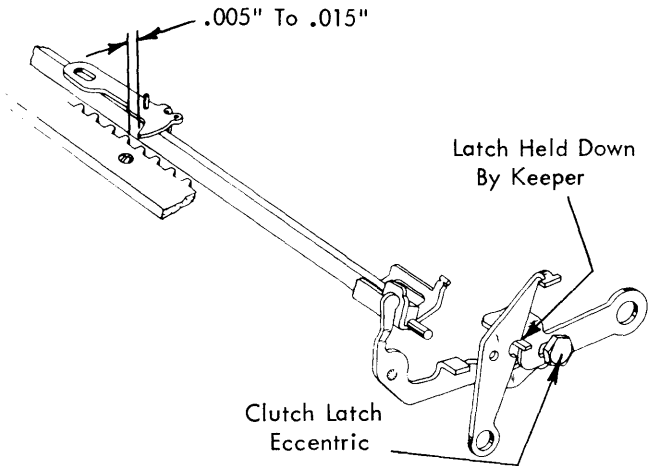

FIGURE 131. Pawl Clearance Adjustment
2. Pawl Clearance (721, 723 and 725) - Adjust the clutch latch eccentric so that the escapement pawl will clear the rack teeth by .005" to .015" when the latch is being held down by the keeper (Fig. 131).